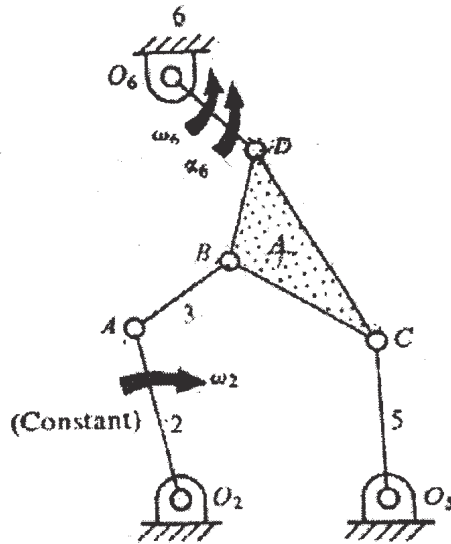

Fig. 01
**Q2)** A mechanism is shown in Fig. 01, the dimensions of different link are as given below  $O_2A = 7.5 \text{ cm}$ ,  $AB = 5 \text{ cm}$ ,  $BC = 7.5 \text{ cm}$ ,  $O_5C = 6.5 \text{ cm}$  (is vertical)  $CD = 10 \text{ cm}$   $BD = 5 \text{ cm}$   $O_6D = 5 \text{ cm}$  Angle  $O_2AB = 110^\circ$ , Angle  $ABC = 115^\circ$  Angle  $O_6DB = 117^\circ$   $\omega_2 = 10 \text{ rad/sec}$  (Clockwise). Using relative velocity method determine angular velocity of link  $O_6D$  ( $\omega_6$ ) [10]